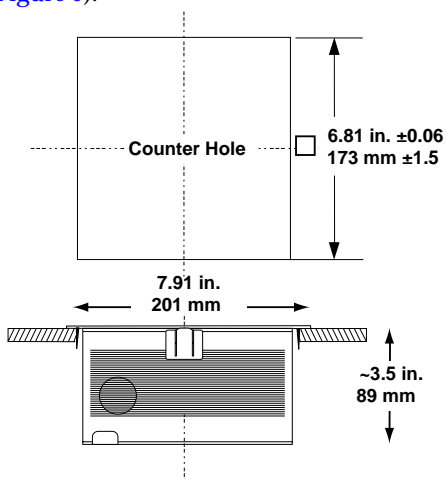

Figure 5. Stainless Steel Top Option A
1. Cut a hole in the counter 6.81 in. (173 mm) square (Figure 5).